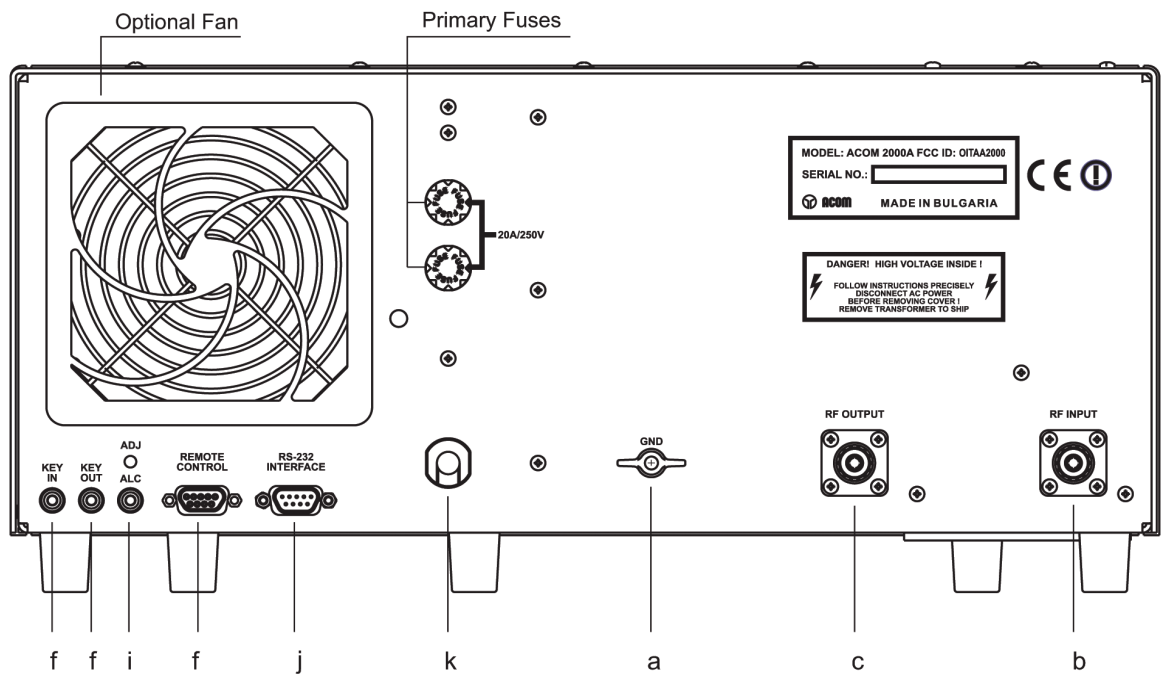
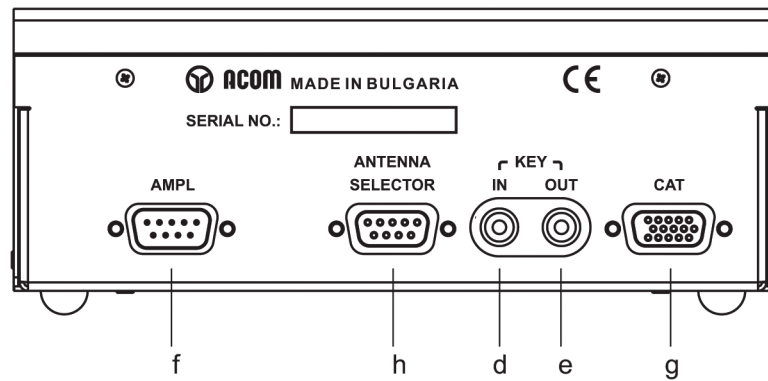
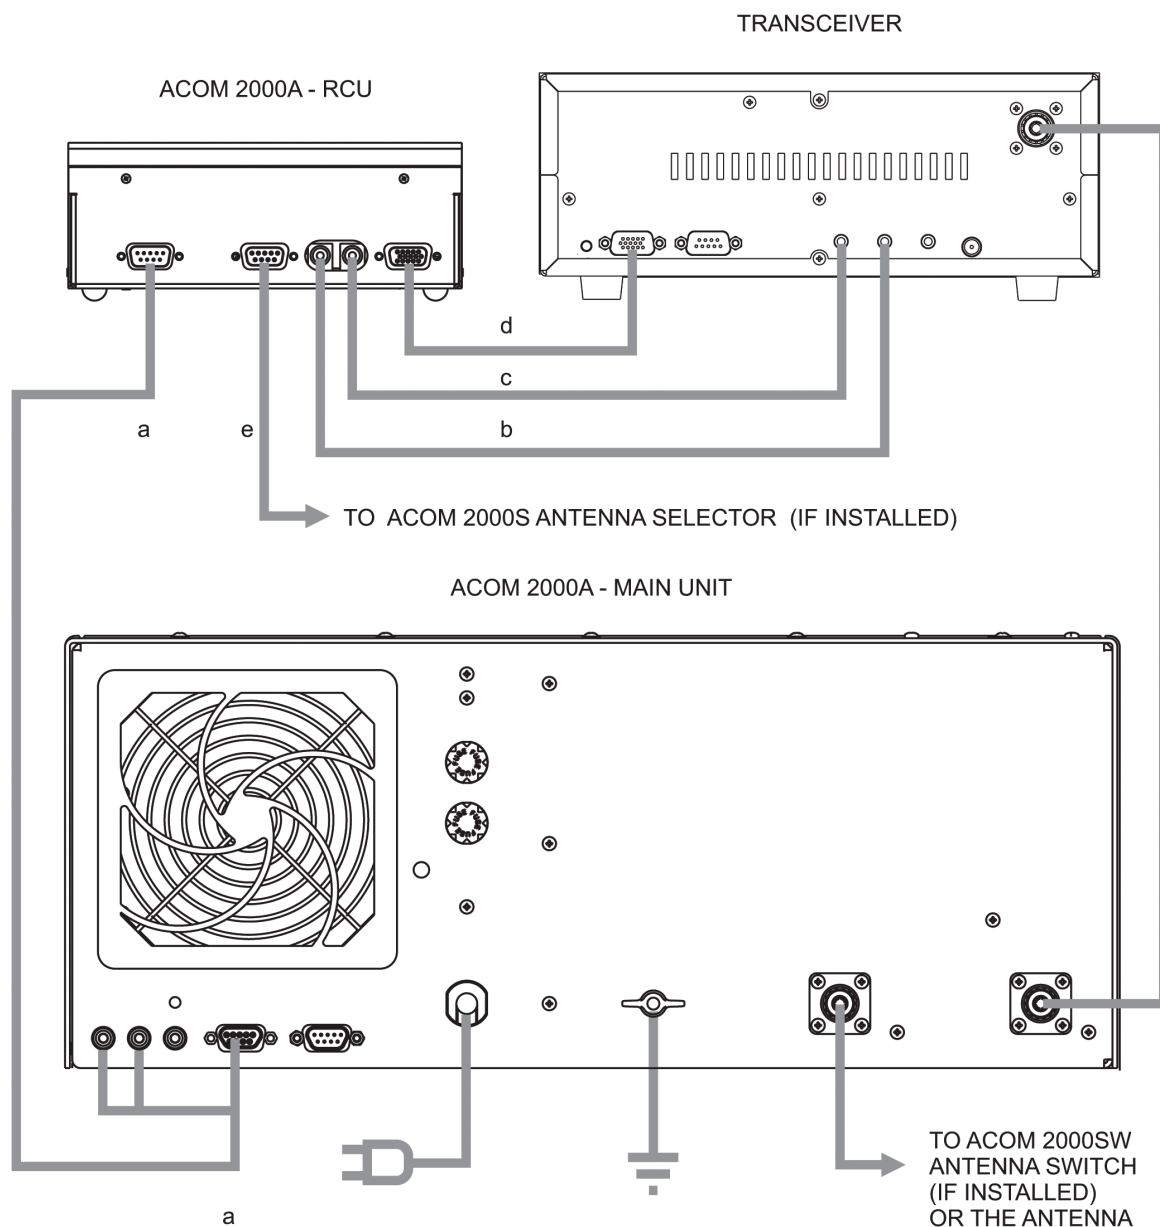

Fig. 2-2 Amplifier Main Unit Connections
Fig.2-3 Amplifier Remote Control Unit Connections
Fig.2-4 Main Unit, RCU, Antenna Selector, and Transceiver, connections
- a) Connect the ground stud of the amplifier Main Unit (on the rear panel, marked GND) to the station's grounding system (Fig.2-2, Fig.2-3 & Fig 2-4).
This fan is not necessary in SSB and CW modes, nor in continuous carrier modes (RTTY, SSTV etc.) with carrier down times of maximum 15 minutes and a subsequent pause of 3 minutes. For higher duties the fan is recommended. The auxiliary fan (119x119mm) is supplied as an option with a set of 8 screws, nuts and washers. It may be mounted by the manufacturer or dealer on request (Fig. 2-2). Contact your dealer or see the TECHNICAL SUPPLEMENT for details.